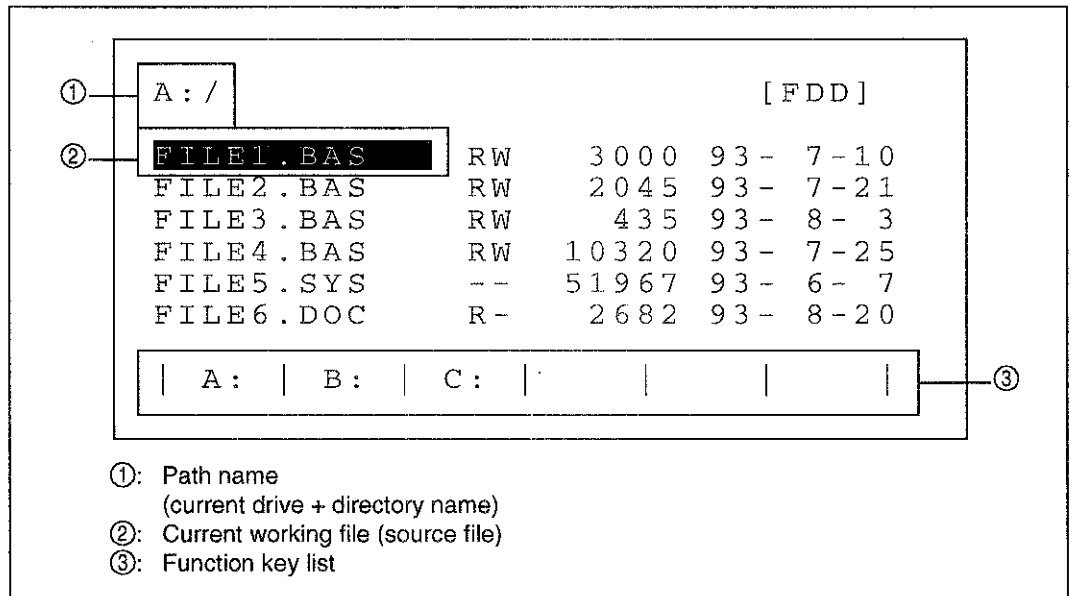

Figure 4-34 COPY Display Screen
①: The current working file is the file indicated by the cursor in the FILE mode.
(7) COPY (file contents copy) screen
When COPY (K5) is selected with the function key from the FILE mode, a screen like that shown in Figure 4-34 appears if the working file is a text file. (For details, see (5) in subsection 4.1.3 "FILE Mode".)